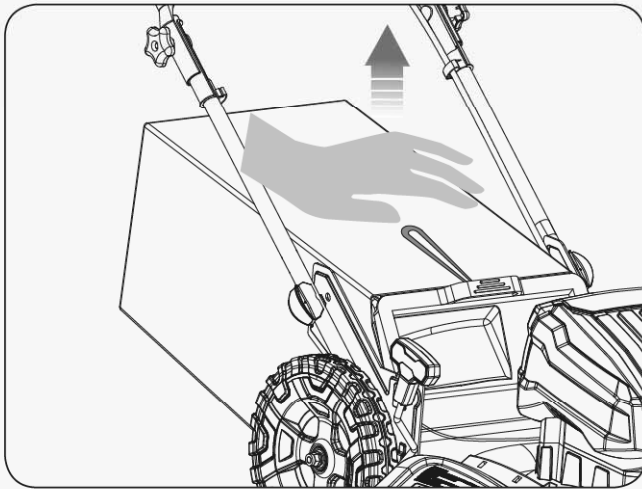

Figure 13
3. Lift the grass catcher with the frame handle. (See **Figure 13**)